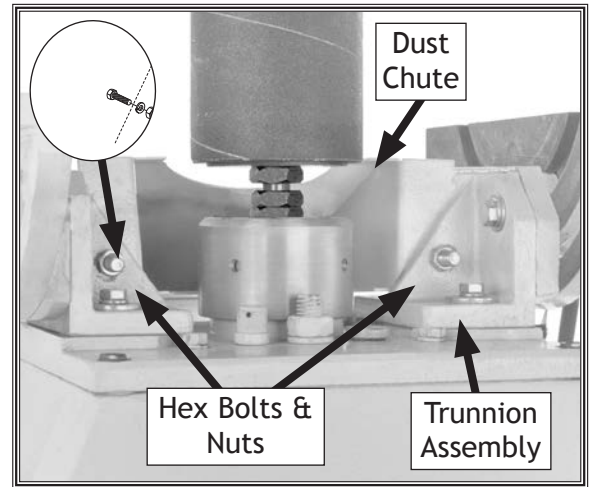

Figure 12. Trunnion assembly components.
1. Secure dust chute to trunnion assembly with pre-installed (2) $\frac{3}{8}$ "-16 x $1\frac{1}{2}$ " hex bolts, $\frac{3}{8}$ " lock washers, and $\frac{3}{8}$ "-16 hex nuts (see **Figure 12**).